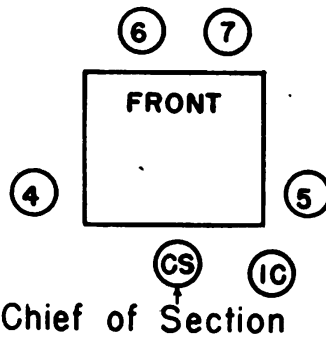

FIGURE 49.—Posts for manning detail, director M4.
Q. What are the posts of the range section? *A.* See figures 49 to 53, inclusive.